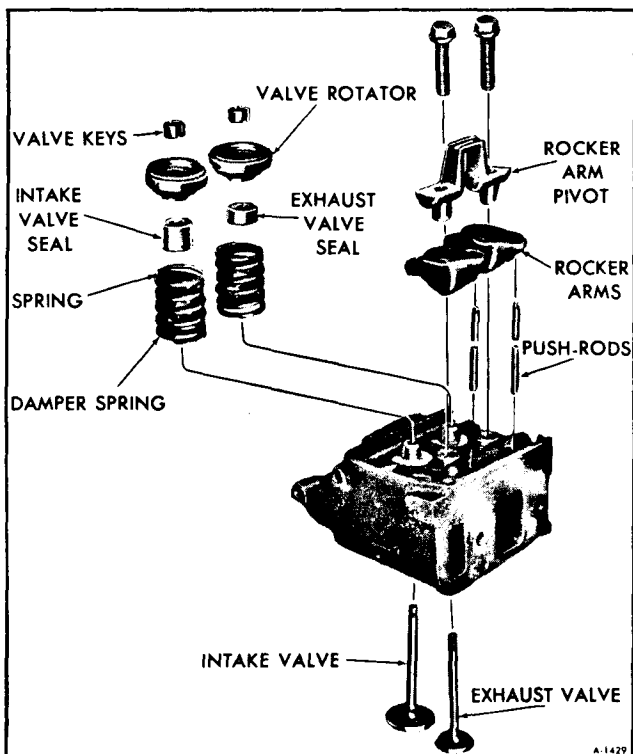

Figure 17-Cylinder Head-Exploded View
ROCKER ARM ASSEMBLIES (FIGURE 17)
3. Position rocker arms, pivots and bolts on cylinder head as shown in Figure 17.
6. Remove rocker arm bolts, pivots, rocker arms and push-rods as shown in Figure 17.